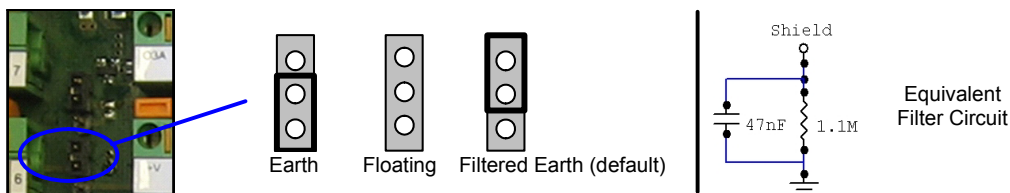

Figure 5– Host 2 Shield Jumper Settings
- Connect the reading device chassis to earth ground through the jumper, (default setting, see Figure 5).